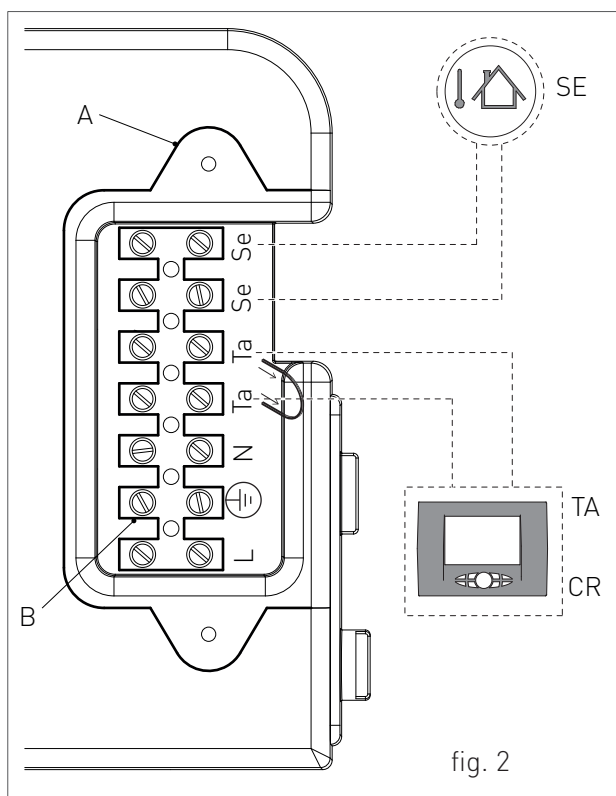

fig. 2
- › remove the front casing of the boiler (see chapter ACCESSING THE BOILER); unscrew the screws and remove plate "A" (see fig. 2).
- › After removing the plate, connect the electrical cables to terminal "B" (see fig. 2):